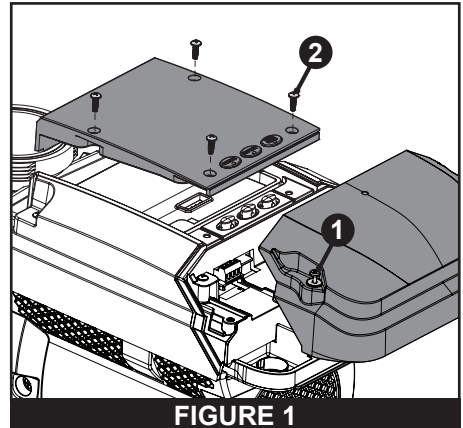

FIGURE 1
2. Using a #2 Phillips-head driver, unfasten the two Wiring Cover Screws (1). See **FIGURE 1**.
4. Using a #2 Phillips-head driver, remove the four Blank Cover Screws (2). See **FIGURE 1**.